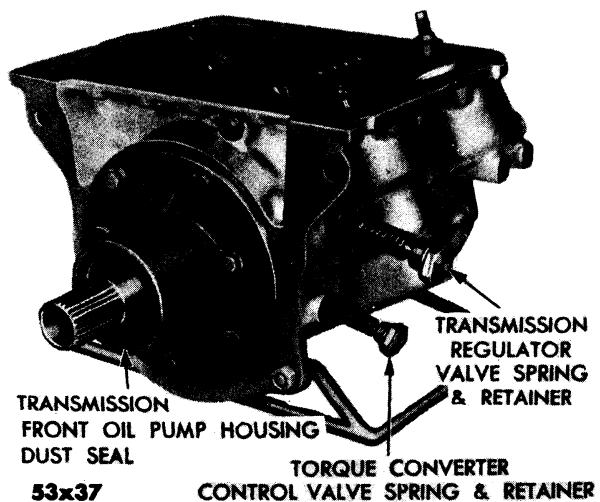

Fig. 94—Transmission Regulator and Torque Converter Control Valve Spring Retainers
- (1) Remove the transmission regulator valve spring retainer, spring gasket, and valve. (Fig. 94.)